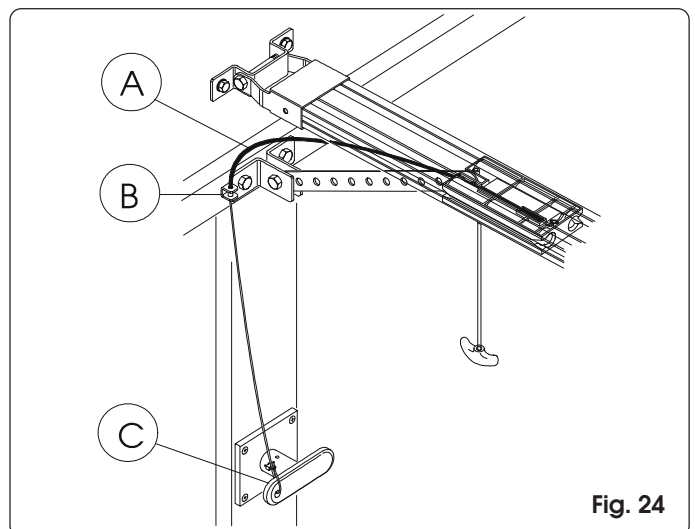

Fig. 24
- 1) Cut the cable sheathing to size (fig. 24 ref. A).
- 2) Insert the cable in the sheath and through the special eyelet of the connection bracket on the door (fig. 24 ref. B).
- 3) Cut the cable to size and assemble it with the inside lever of the release handle (fig. 24 ref. C).